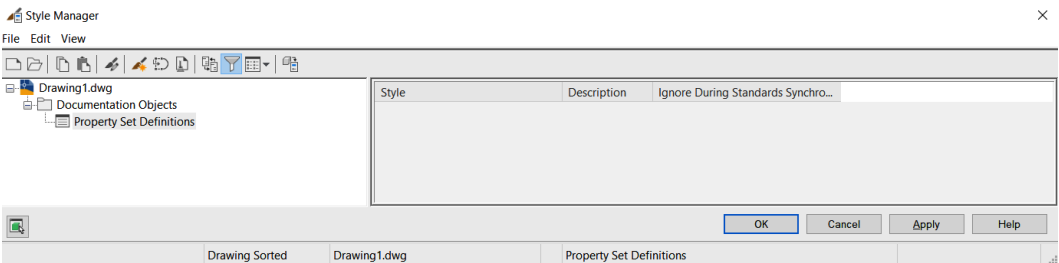

Figure 10.2 – Style Manager dialog box
1. Once you have typed either one of these into your command line at the bottom of your session, the **Style Manager** dialog box will appear, as shown in *Figure 10.2*: